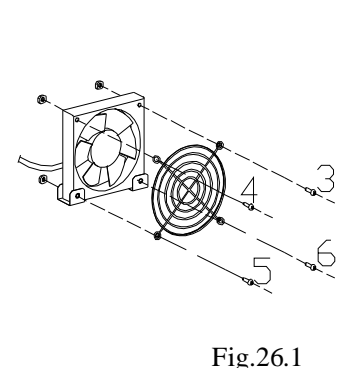

Fig.26.1
- 4) Remove the 4 fixing screw of the fans with the Phillips head screwdrivers (3, 4, 5, 6) , replace the fan(Fig.26.1).